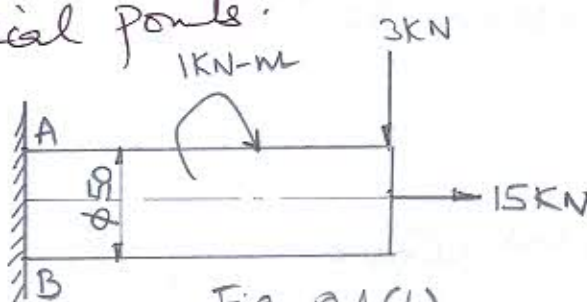

Fig. Q1(b)
b) A circular rod of diameter 50mm is subjected to loads as shown in fig. Q1(b). Determine the nature and magnitude of stresses at the critical points.